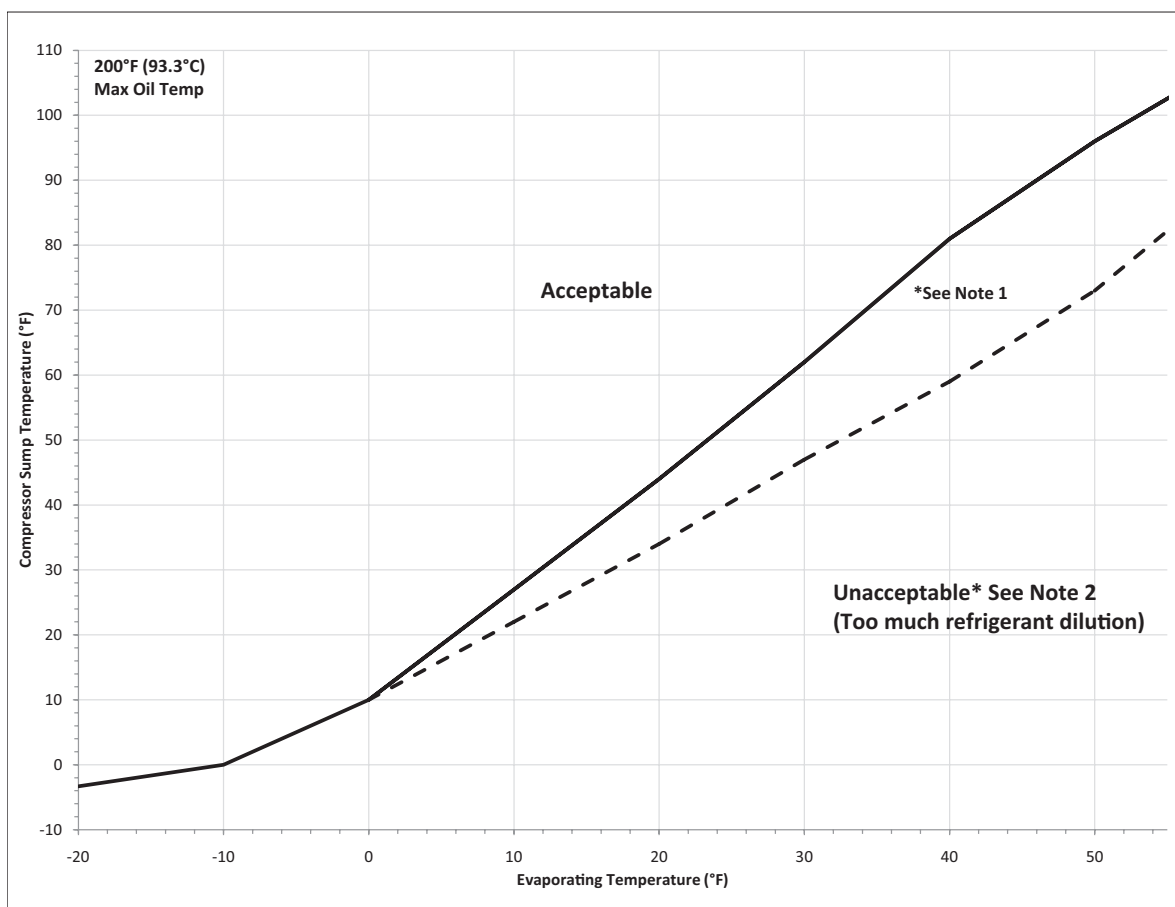

Figure 6 – Oil Dilution Guideline Chart
1. **Compressor sump superheat must comply with Figure 6 during the running cycle. (See Note 2 on Figure 6. Consult Application Engineering if necessary)**